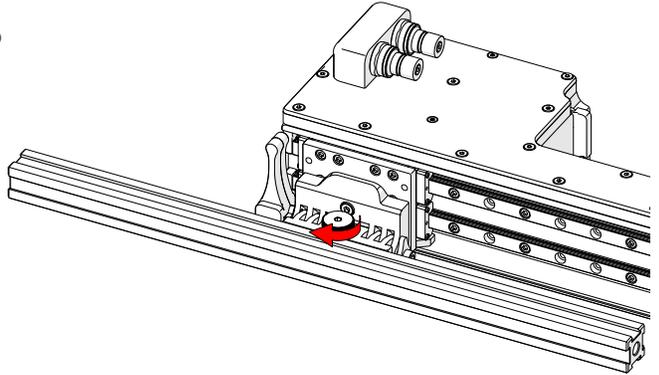

Fig. 64 - Mount frame bar
4. Mount a frame bar to the Raster Arm HT pivot nose (Fig. 64).